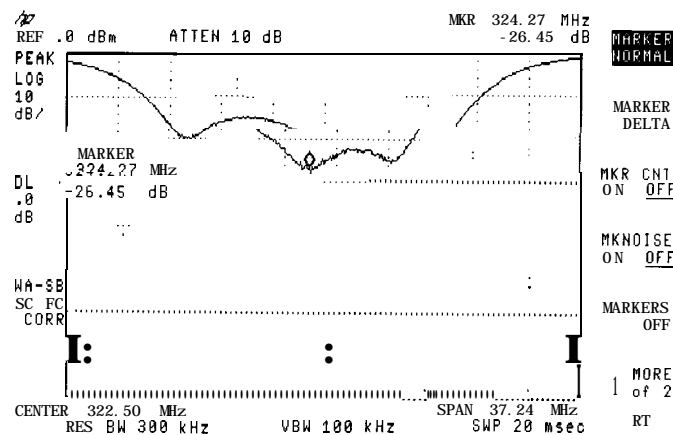

Figure 4-16. Measuring the Return Loss of the Filter
8. Use the marker to read return loss. Press **(MKR)** and position the marker with the knob to read the return loss at that frequency (see Figure 4-16).